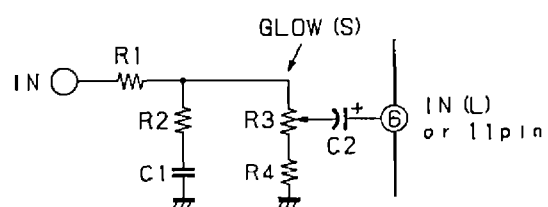

Fig. 6
As shown in Fig. 6, connecting the time constant circuit of CR to input pins 6 and 11 makes low band correction possible. Transfer function GLOW(S) in Fig. 6 goes: